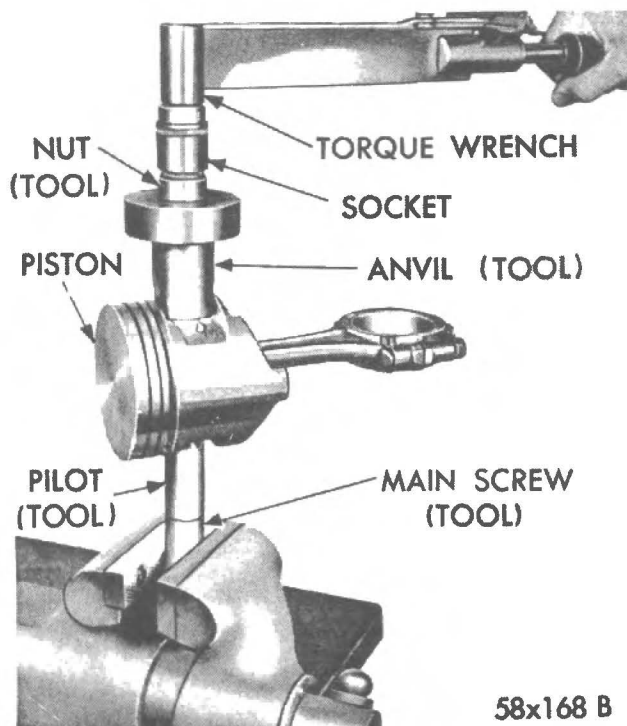

Fig. 38 - Testing fit of piston pin in connecting rod (Tool CA-3724).
(12) Place assembly in a vice (Fig. 38).
(13) Attach the torque wrench to nut and check torque up to 15 lbs./ft. If the connecting rod moves downward on the piston pin, reject this connection rod and piston pin combination. Install a new connecting rod and repeat the installation and checking procedure. If the connecting rod does not move under 15 lbs./ft. torque, the piston and connecting rod interference is satisfactory.
(14) Remove the tool.